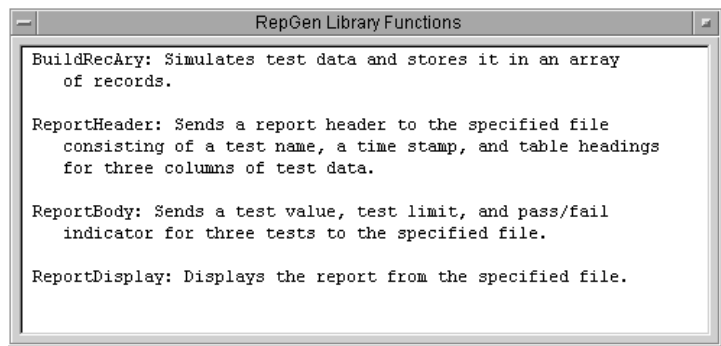

Figure 197 The RepGen.vee Library of UserFunctions
- 3 Select **Display** ⇒ **Note Pad** and type the UserFunction descriptions similar to the ones shown in Figure 197. Then save the program as **RepGen.vee**.